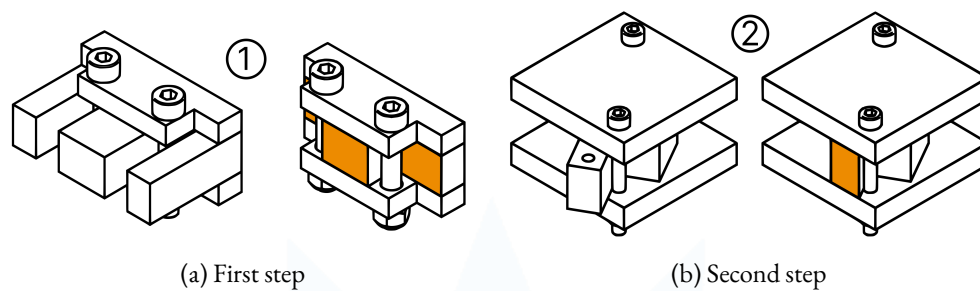

Fig. A.47.: The transformer sheets are cut in two steps, using the two angle grinder appliances
- Fit the transformer sheets into angle grinder appliance 1 and cut them down according fig.A.47. On the second step, make sure that the transformer sheets firmly touch the screw! This is very important to get the important  $60^\circ$  angle. This angle is the reason for the uncomfortable bore dimension of this appliance and is very important for the fit inside the generator cover, later.